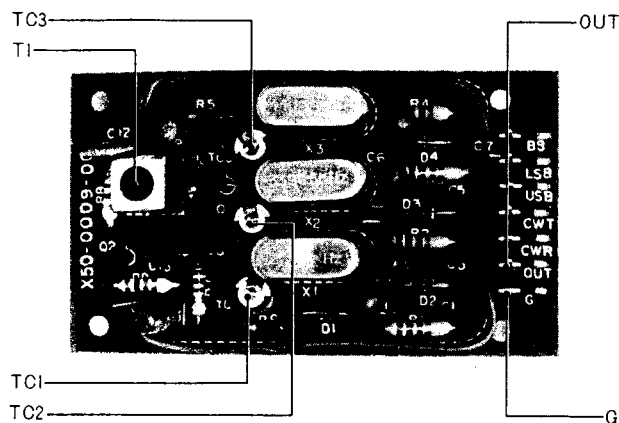

Fig. 9
5. Carrier oscillator (Refer to Fig. 9)